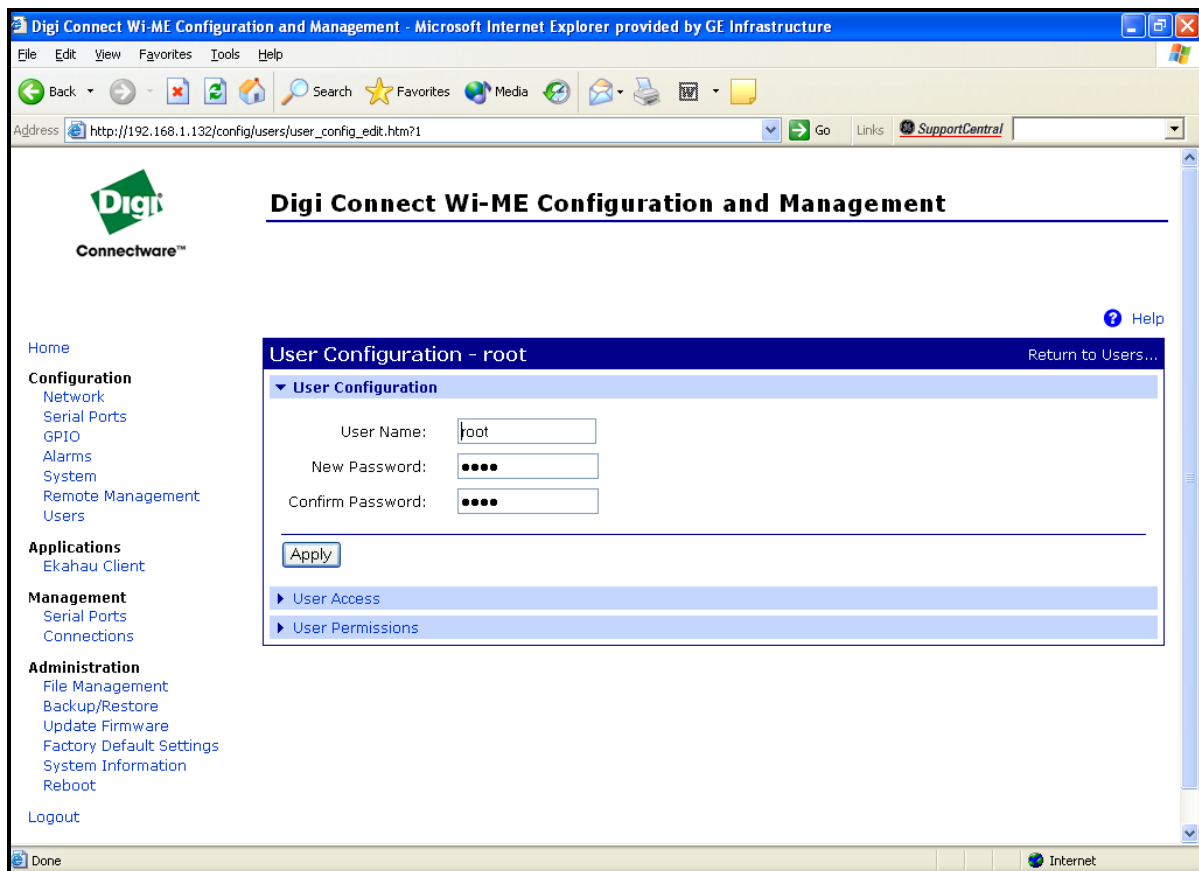

Figure 34: Changing the User Name and/or Password
5. Click on **New....** Figure 34 on page 42 appears.